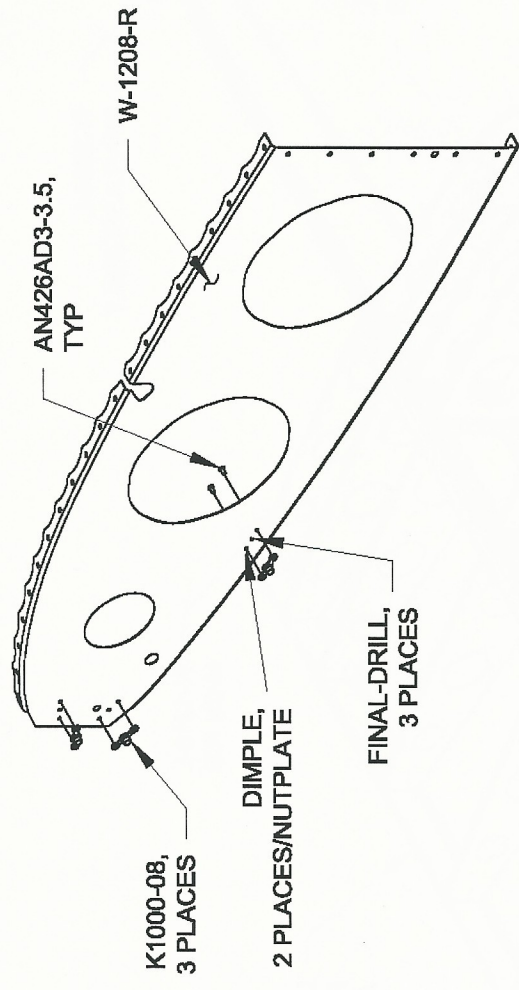

FIGURE 4: ADDING THE NUTPLATES TO FWD AND AFT TRIMMED NOSE RIBS
Step 9: Select one each of the W-1208-L Nose Ribs and W-1208-R Nose Ribs with the aft and forward trimmed flanges. Dimple the rivet hole locations as shown in Figure 4. Final drill #19 the center nutplate hole as shown in Figure 4. Dimple then install three nutplates on each nose rib as shown in Figure 4.